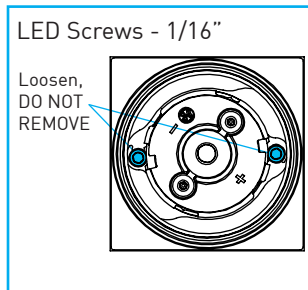

Fig.49
- E. Carefully pull on driver wiring harness to release the driver from the spring tab. Remove driver through housing aperture. *(Fig.49)*.